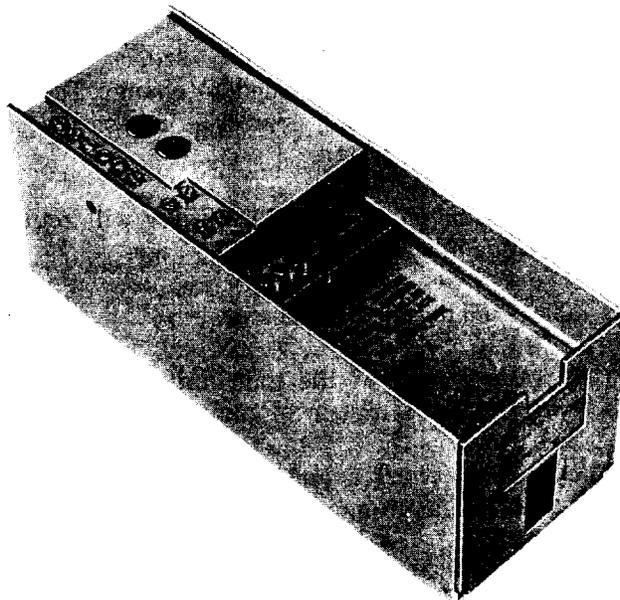

Fig. 2—E6 Terminal Repeater Assembly
2.04 For terminal repeaters, an 830-type network of the type specified for the line B side should be inserted and the four screws that hold the network should be tightened. An 832A (dummy) network should be inserted on the line A side of the repeater and these four screws should be tightened. The terminal repeater assembly is shown in Fig. 2.